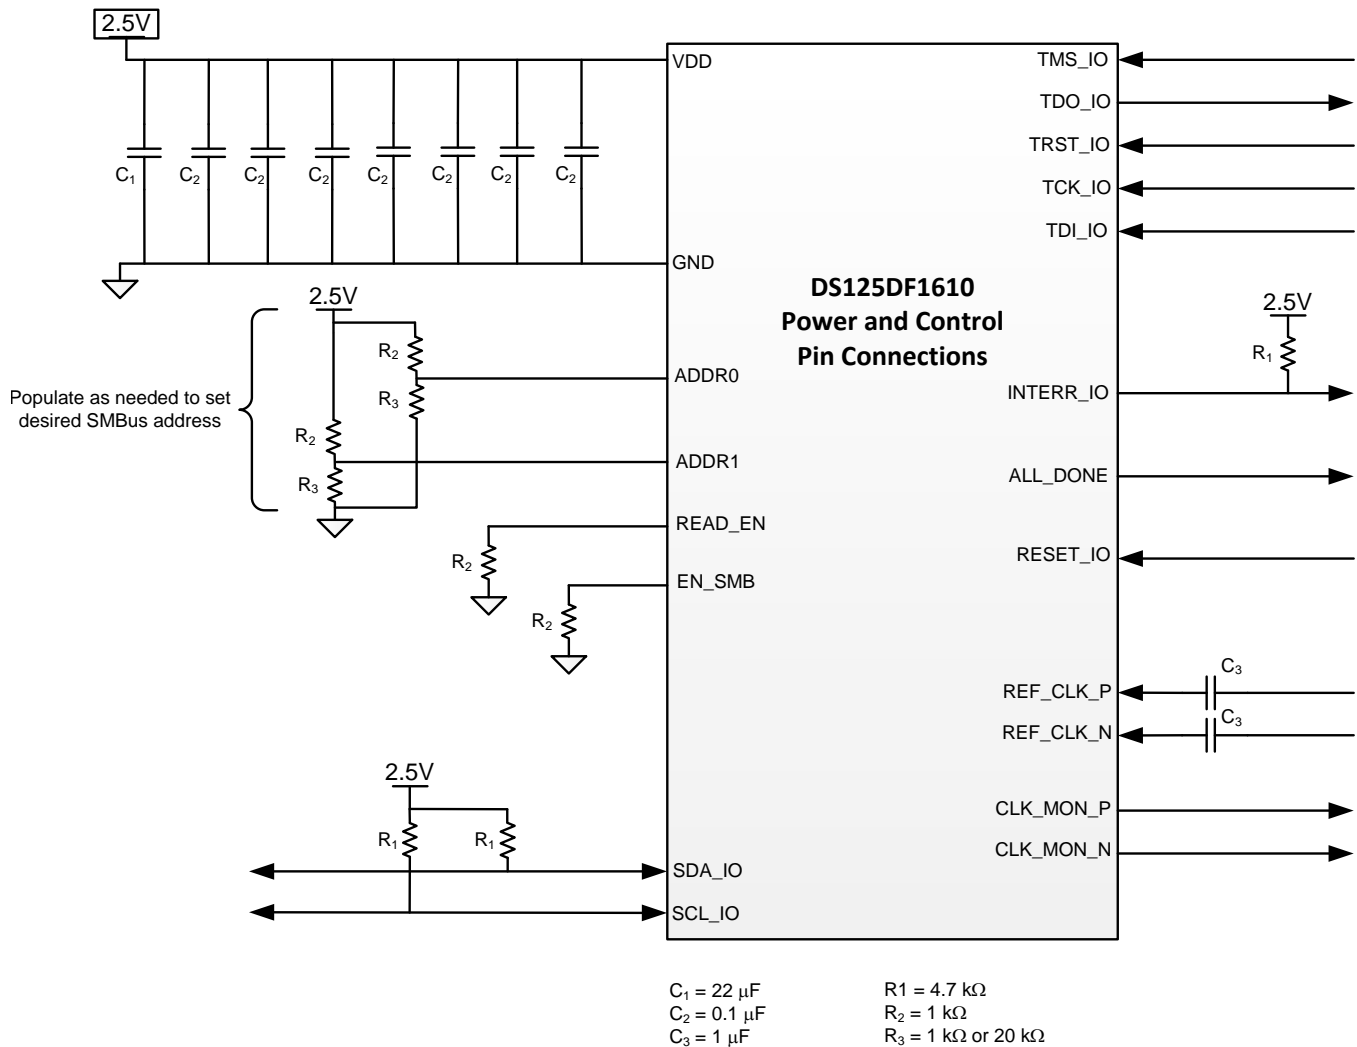
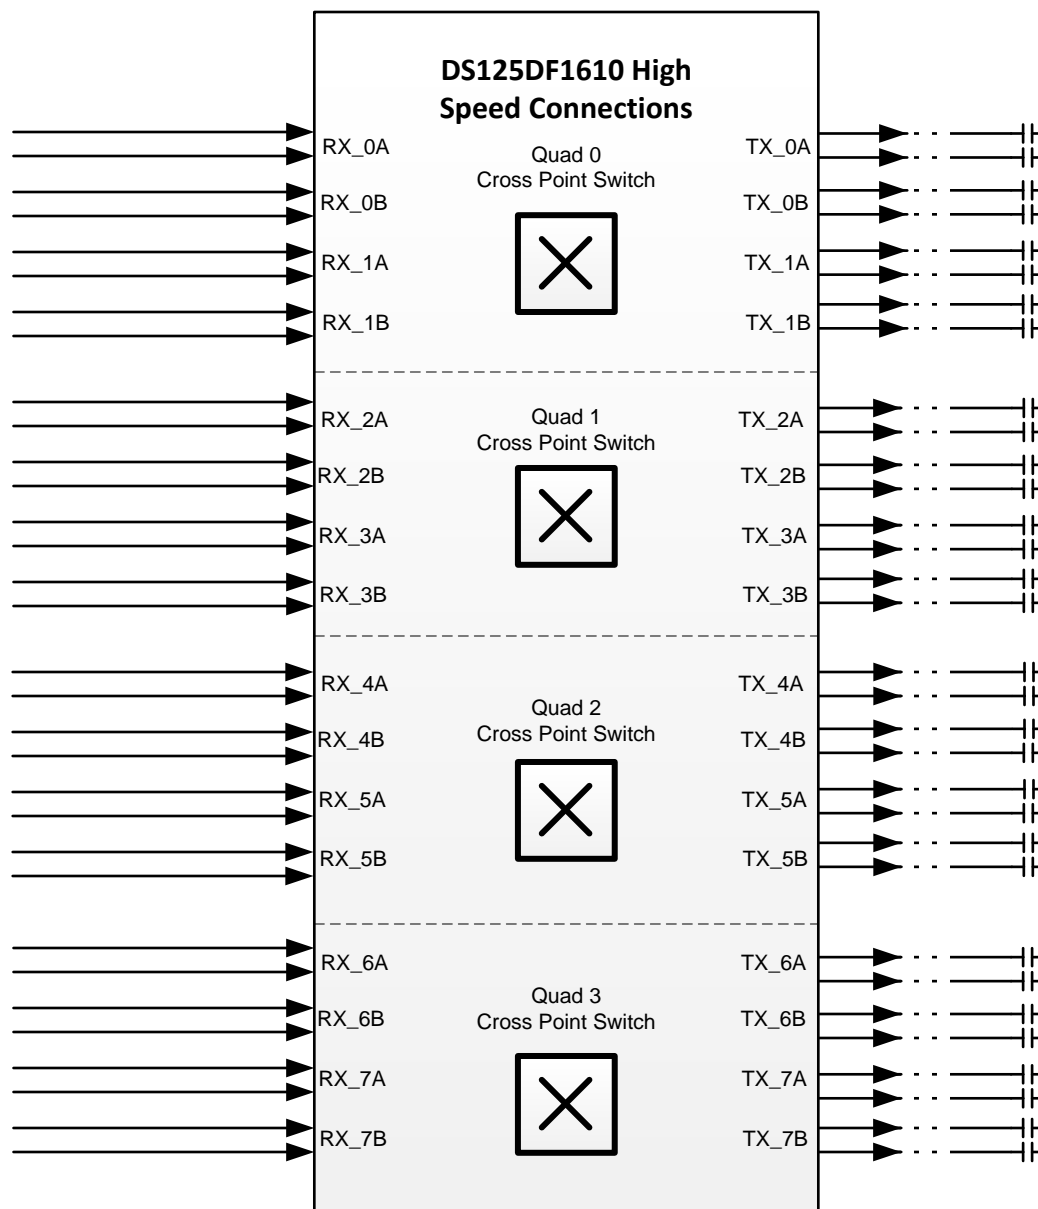

图 6. Typical Connection Diagram: Power and Control Pins
图 7. Typical Connection Diagram: High Speed Signals
图 6 and 图 7 show a typical application of the DS125DF1610. In these diagrams, the DS125DF1610 is configured for SMBus slave mode programming. Power is supplied to the device through a single 2.5 V plane. The power supply filtering shown in these diagrams may need to be adjusted to accommodate additional system power noise. The SMBus and LVCMOS signals in this example use 2.5 V logic. A differential reference clock for the digital block is applied to the device through 1 μF AC-coupling capacitors. In this example, the high speed signals are connected to the device in groups of four to allow for the system designer to make use of the 4x4 cross point switches. Note that since the device contains AC-coupling capacitors on the high speed receiver inputs, the signals can be directly connected to the device. The transmitter outputs of this device should connect to AC-coupling capacitors placed near the receive inputs of the receiving ASIC.
- Compare schematic against the typical connection diagrams in the datasheet, 图 6 and 图 7